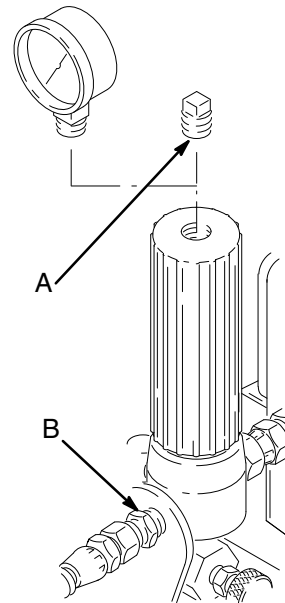

Fig. 21
2. Replace the plug (A) at the top of the fluid filter with a gauge. Connect the gun to the new spray hose. Connect the hose to the outlet (B). See Fig. 21.